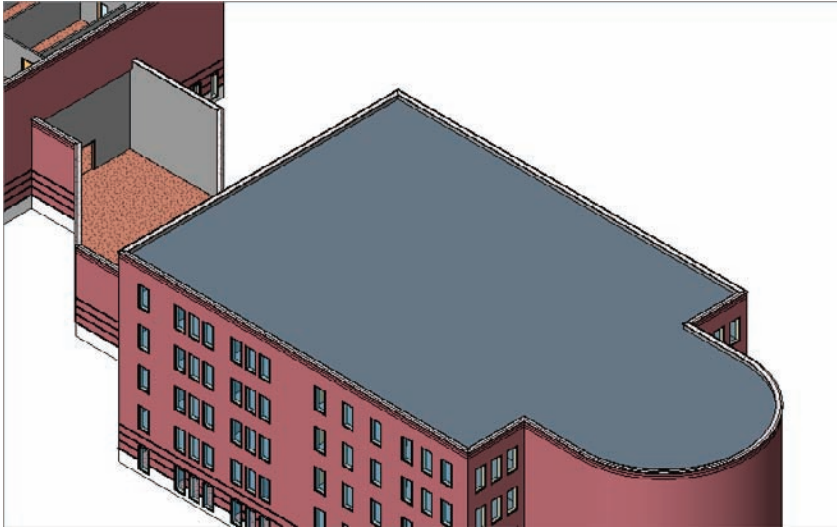

FIGURE 7.4 The roof has been added. You still have a lot of work to do, though.
12. Go to a 3D view, as shown in Figure 7.4.